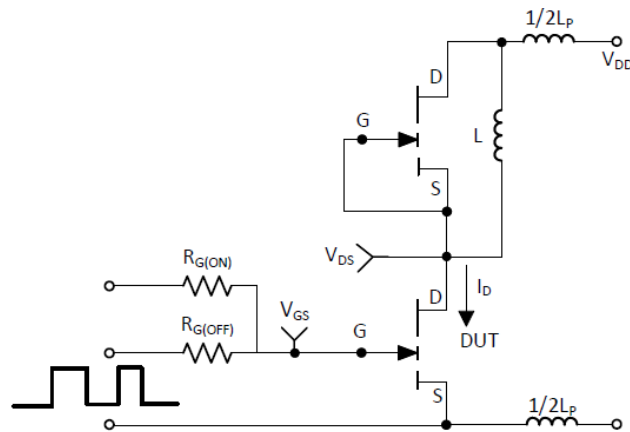

Figure 16: Switching Test Circuit
- (7) See Figure 16 for switching test circuit diagram.